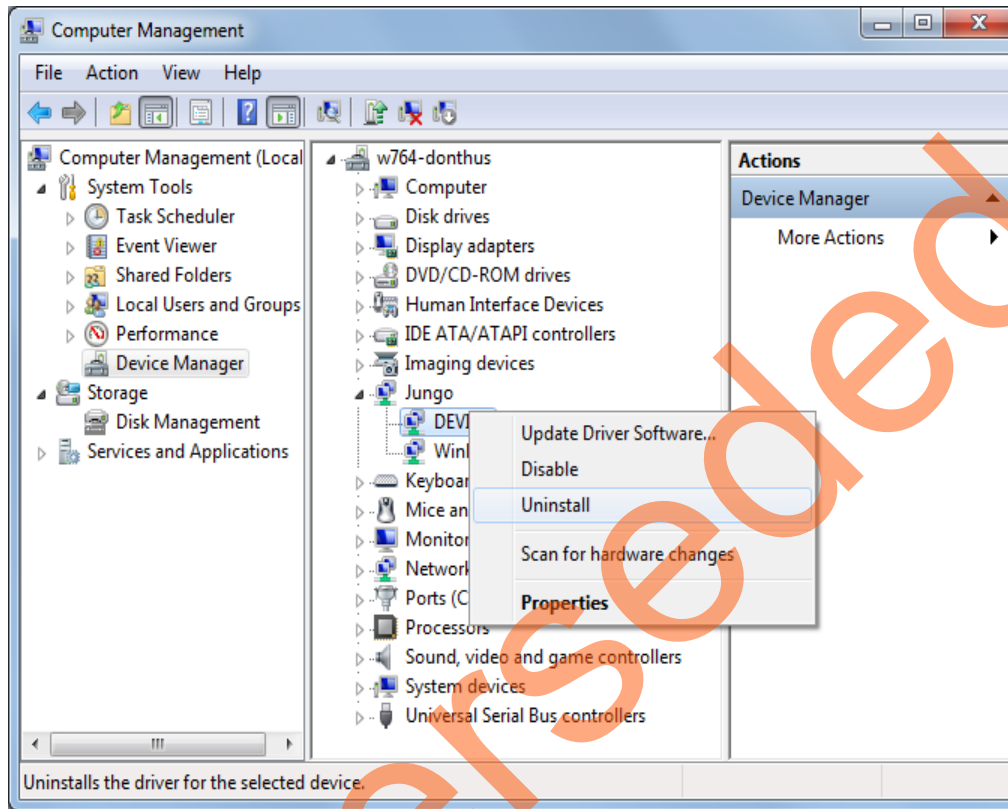

Figure 10 • Uninstalling Jungo Driver
- a. To uninstall previous Jungo drivers go to Device Manager and right-click on **DEVICE**. Refer to Figure 10.